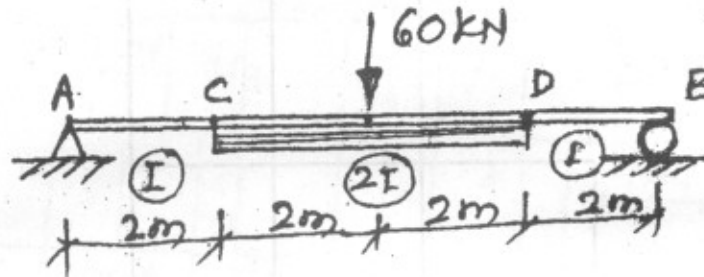

Fig. 6
- (C) Determine the central deflection for the beam shown in Fig. 6. Take  $E = 200 \text{ GPa}$ ,  $I = 4 \times 10^7 \text{ mm}^4$ . [7]